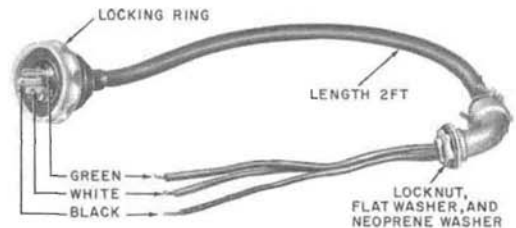

Fig. 6—KS-19580, List 30 Power Cord Assembly
- KS-19580, List 30 power cord assembly (Fig. 6):** Used to bring overhead power into an outdoor booth